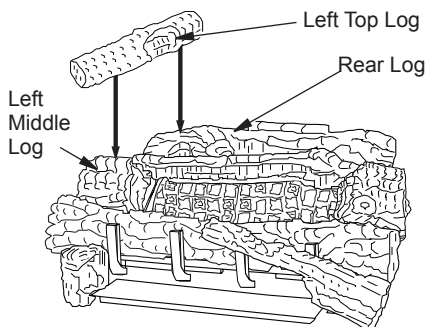

Figure 56 - Installing Left Top Log
- Place the left top log onto the rear log and the left middle log. Make sure to place the projection on the bottom of the left top log into the recessed areas on the rear and left middle logs (see Figure 56).